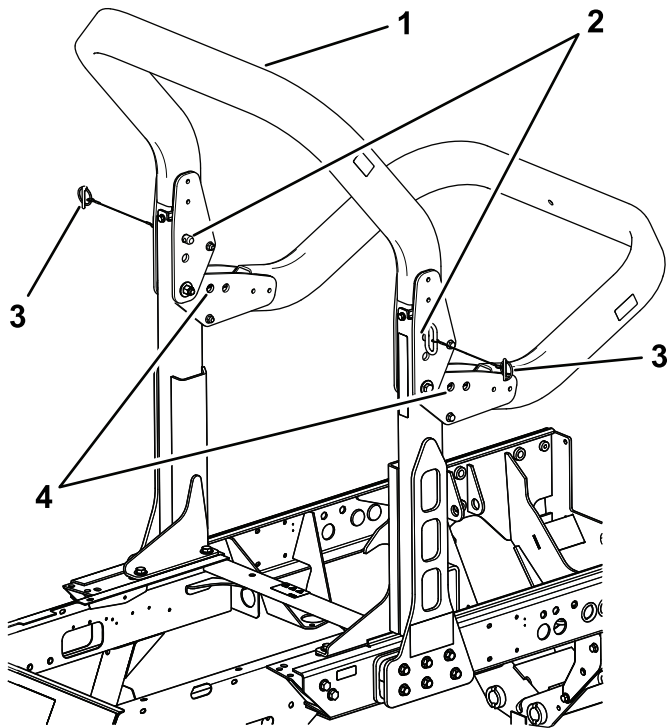

Figure 62
2. Support the weight of the upper frame while removing the snap pins and clevis pins from the pivot brackets (Figure 62).